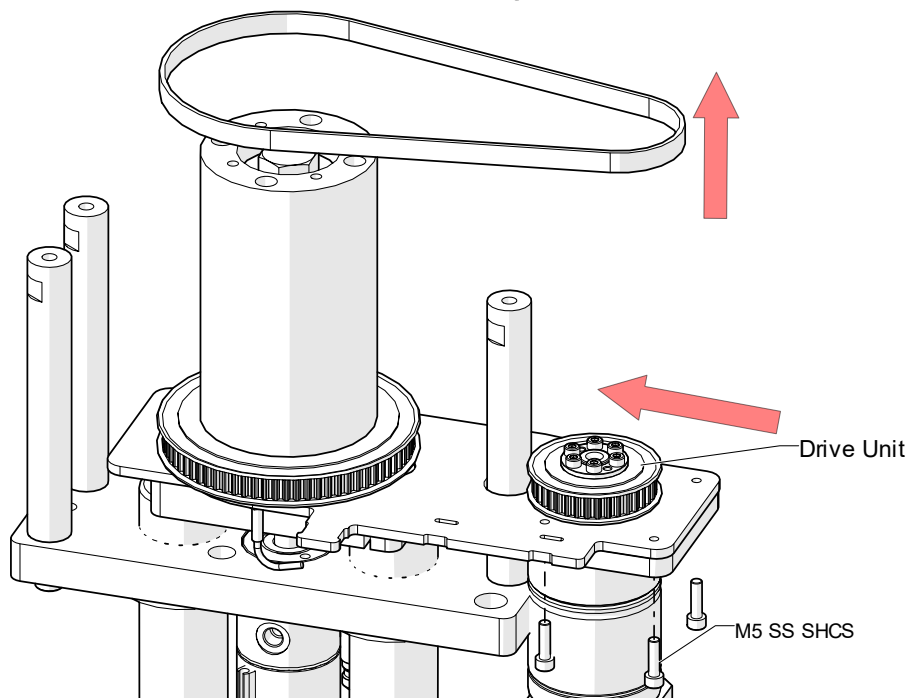

Figure 14: Removing Belt
Step 4: Slide the Drive Unit towards the lift post to create slack in the belt. Lift the belt up to remove as shown in Figure 14.